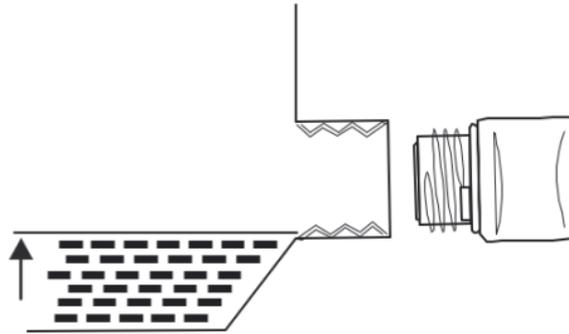

Figure 4: Engine Oil Correct Level
3. Using the supplied funnel and add oil till the marked level into the engine. See correct oil level in Figure 4 below.
- The engine is filled with engine oil (see Figure 4: Engine Oil Correct Level on page 11).